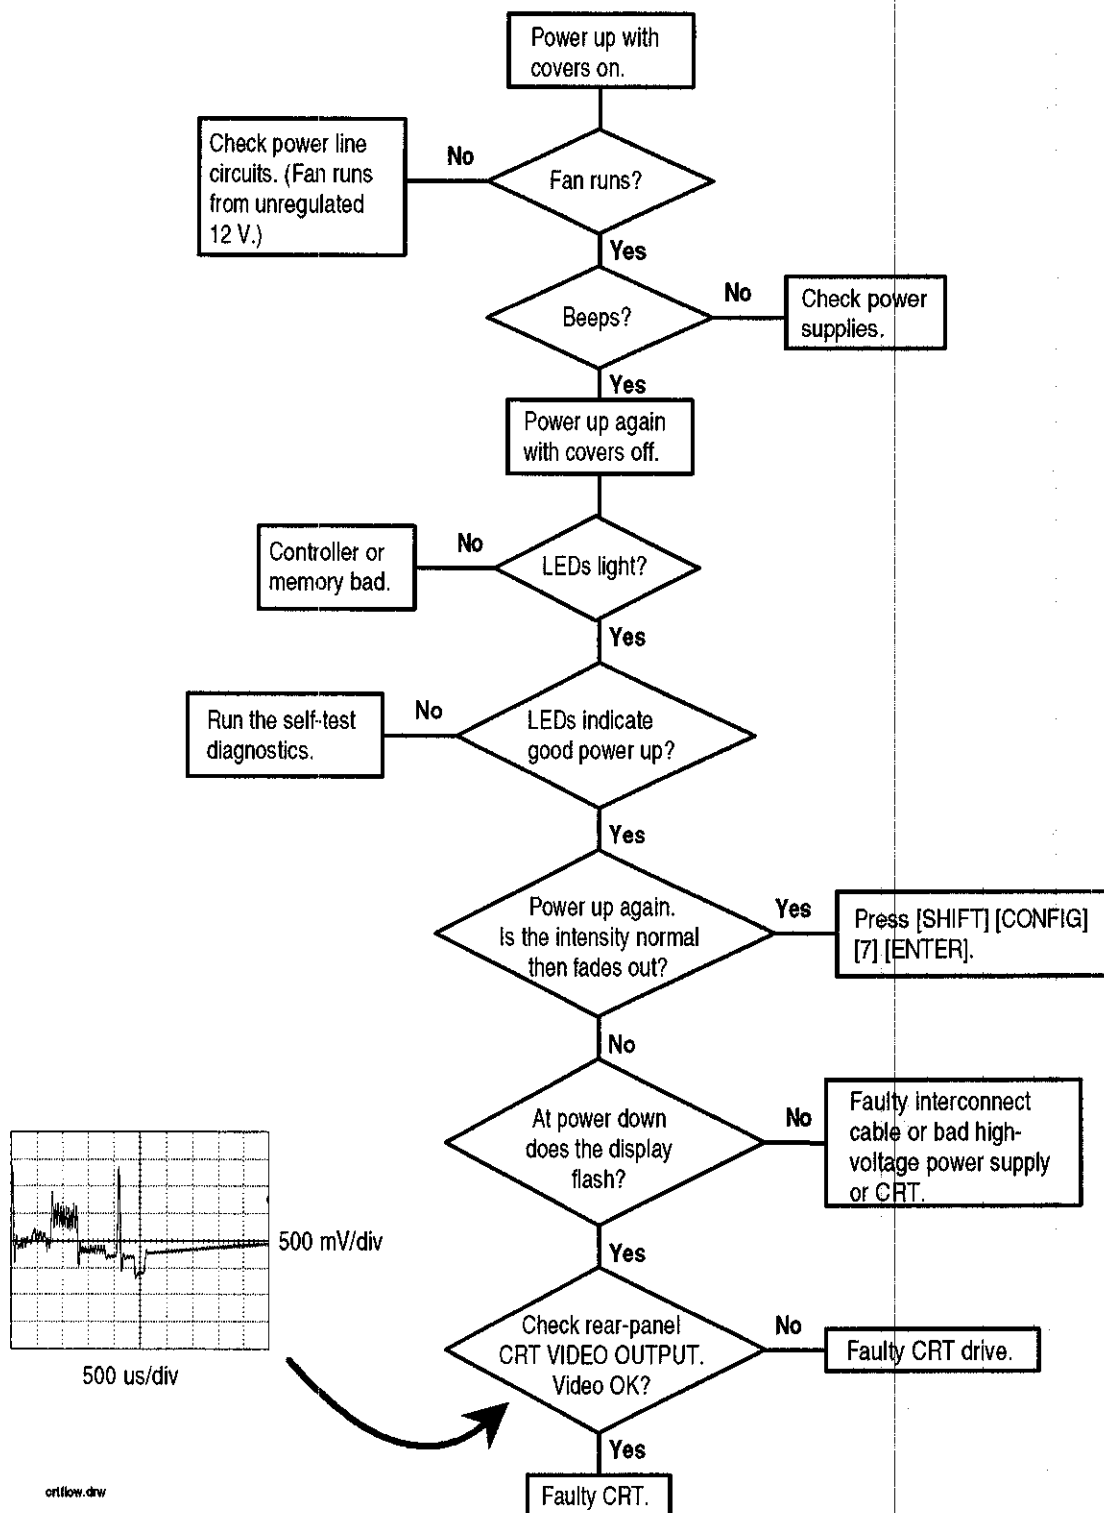

Figure 2-2. Troubleshooting the CRT Flowchart
- If there is no image on the CRT, troubleshoot using figure 2-2.